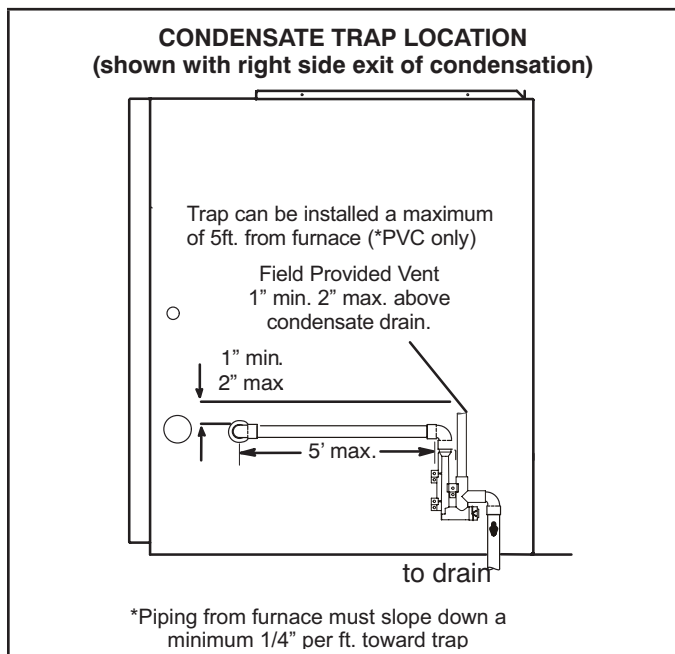

**FIGURE 36**
This unit is designed for either right- or left-side exit of condensate piping. Refer to FIGURE 36 and FIGURE 37 for condensate trap locations.
- 2 - Use a large flat head screw driver or a 1/2" drive socket extension and remove plug (FIGURE 36) from the cold end header box at the appropriate location on the side of the unit. Install provided 3/4 NPT street elbow fitting into cold end header box. Use Teflon tape or appropriate pipe dope